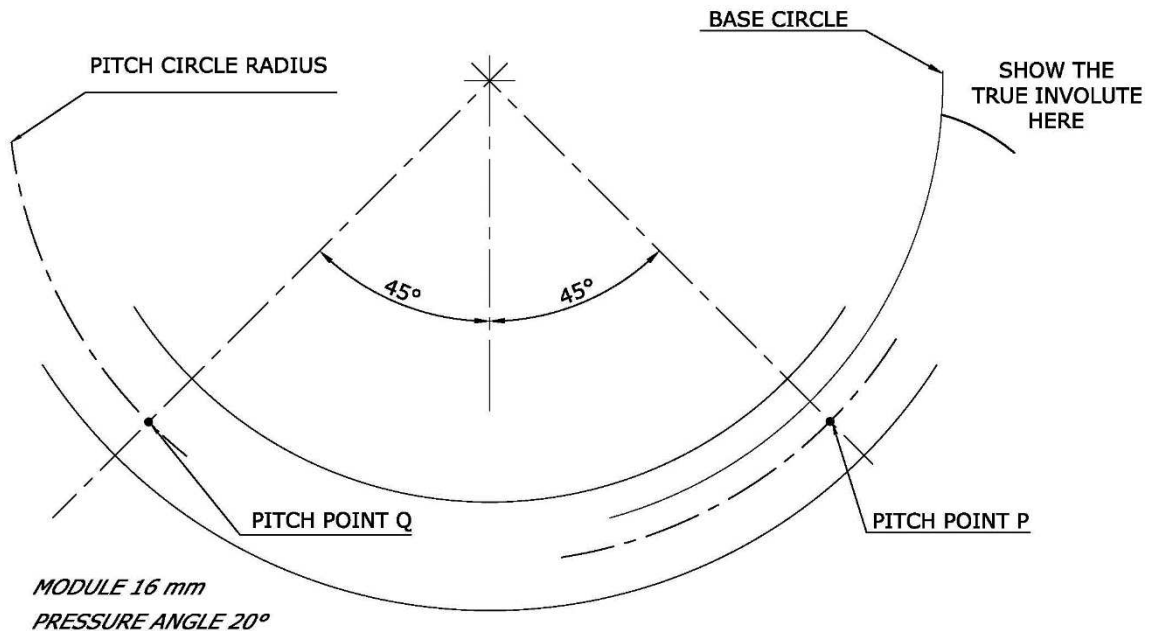

Figure 2b
- a) Write down the gear formulae and, substituting the given gear data, calculate the dimensions required to draw the spur gear teeth. Show the necessary calculations. (2)
- b) Copy, full size, the conventional representations of the gear shown in Figure 2b. Draw the pressure angle passing through the pitch point P and a semi-circle representing the base circle. (2)
- c) Construct one flank face profile of the gear, showing neatly the construction of the involute. The flank face profile of the gear is to be of true involute form. (3)
- d) Draw two teeth, one flank face passing through the pitch point Q. The flank faces of the two teeth are to be constructed using a geometrical approximate construction. (6)